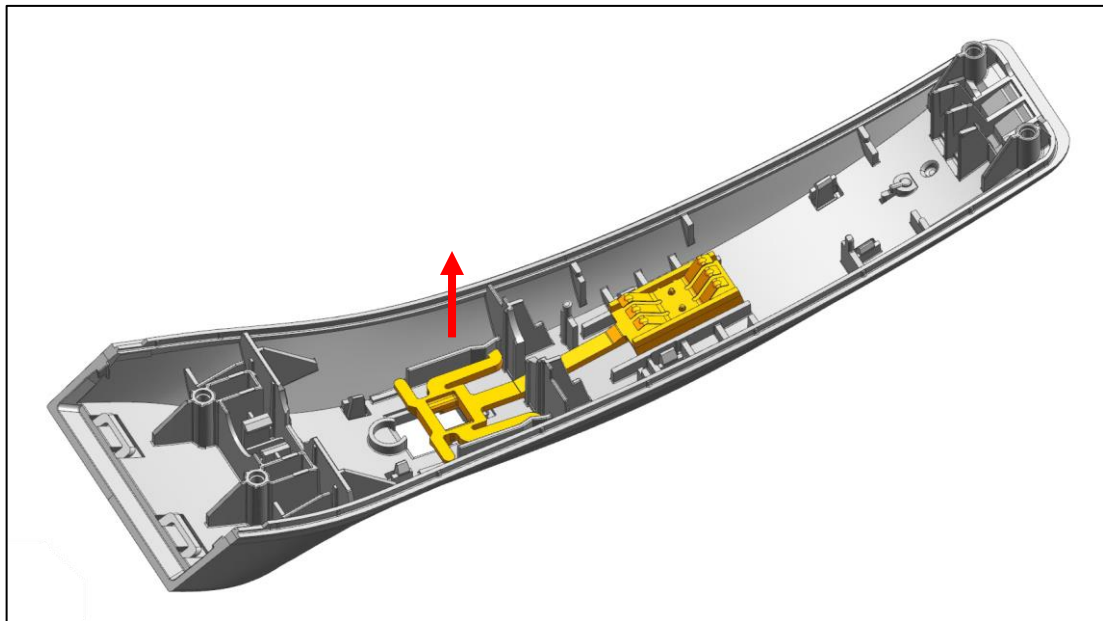

Fig. 12
- b) Then remove the switch lever (with caulked contact spring) (Fig. 12).